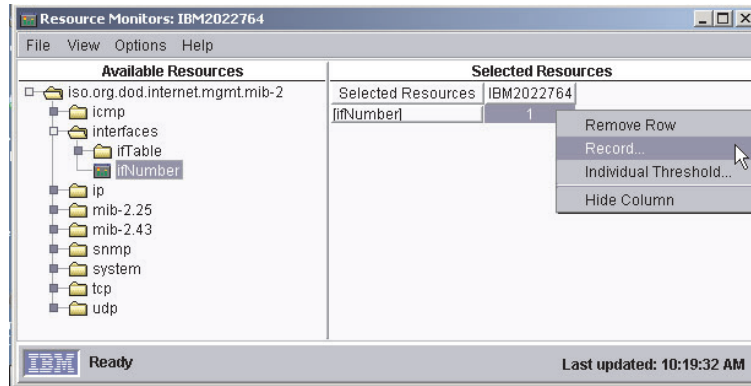

Figure 103. “Resource Monitors” window, clicking **Record**
3. Right-click the attribute cell relating to the resource and the managed system that you want to monitor, and click **Record**. See Figure 103 on page 221.